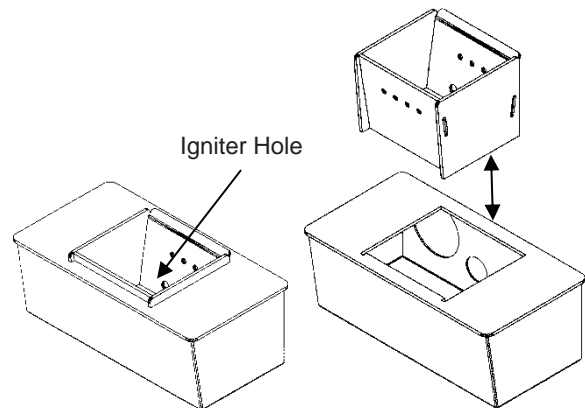

FIGURE 16
- Open door and remove the optional imitation log set, if in use. Remove the burnpot's inner section by grasping it and pulling straight up (see Figure 16).
- Replace inner section into burnpot; make sure it is level and pushed all the way back down and that the igniter hole is to the rear when it is reinstalled (see Figure 16).